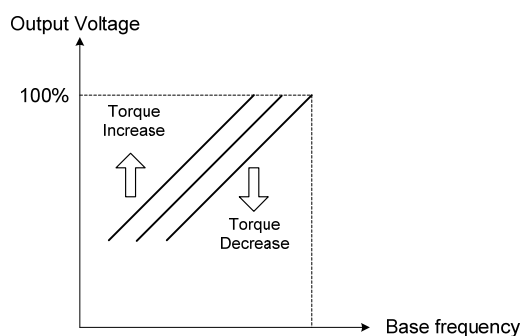

Figure 4.3.14 Tune torque compensation gain to increase output torque
- . Confirm that the output current at low speed does not exceed the rated output current of inverter. Refer to the torque compensation gain adjustment shown in Figure 4.3.14.